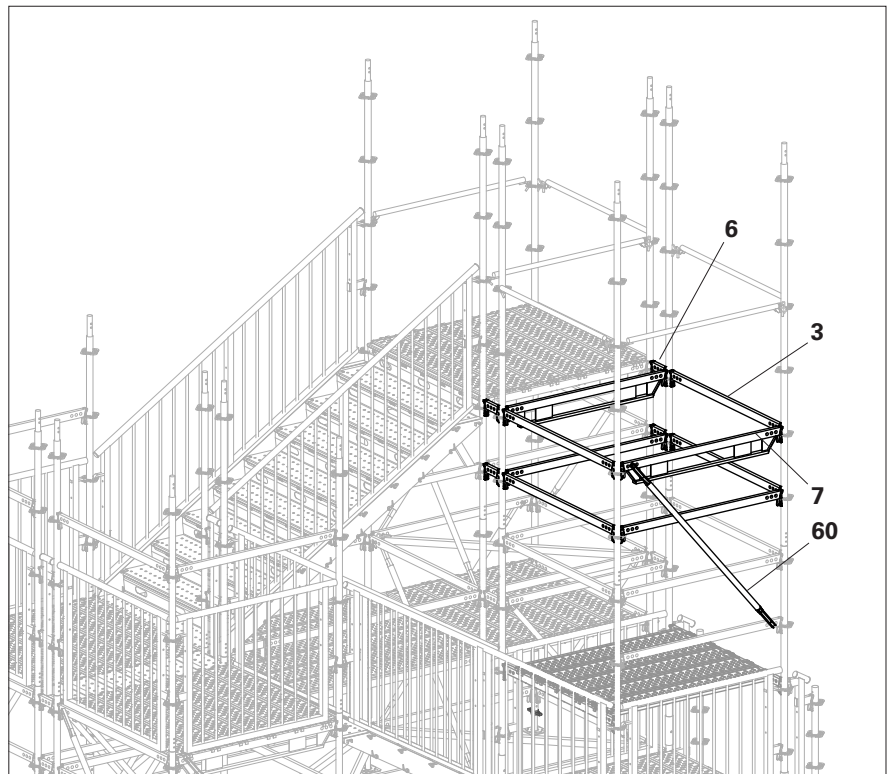

Fig. B3.08
4. Fit 1 x Ledger Brace UBL-2 150/150 (**60**). (Fig. B3.08)